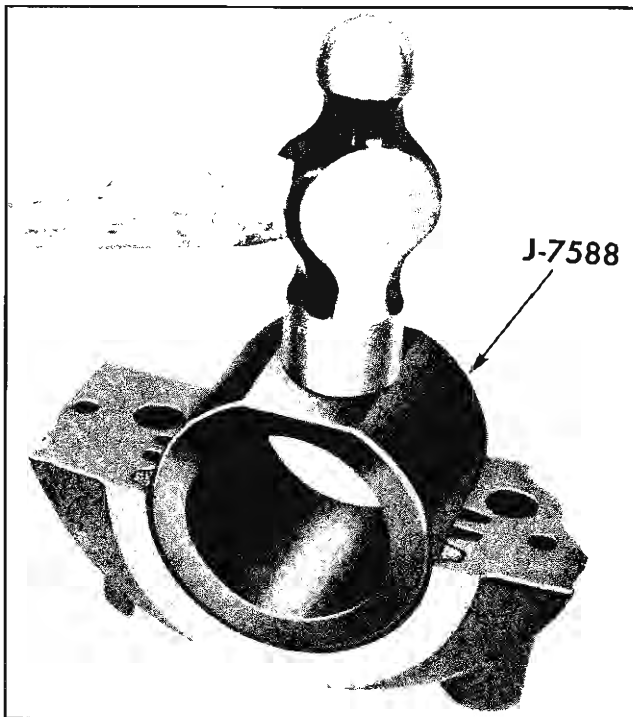

Fig. 6-54 Compressing Seal in Bearing Cap
a. First install seal in cap and compress seal using hammer and Seal Compressor J-7588 (Fig. 6-54).